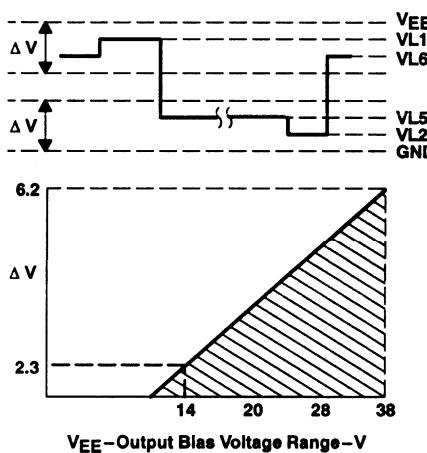

Figure 1
4.  $VL_n$  voltage range should be within  $\Delta V$  (see Figure 1).